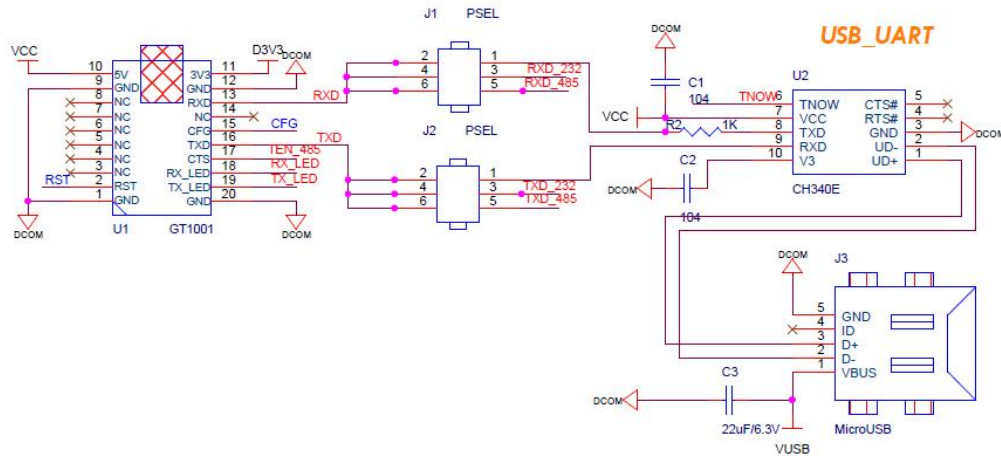

Figure 4-1 TTL to UART Reference Design
- 1) Select J1 and J2 in Figure 4-1 at < 3,4 > jumpers respectively;
- 1) Select J1 and J2 in Figure 4-1 at < 5, 6 > jumpers respectively;
- (4) Key Control Reference Circuit